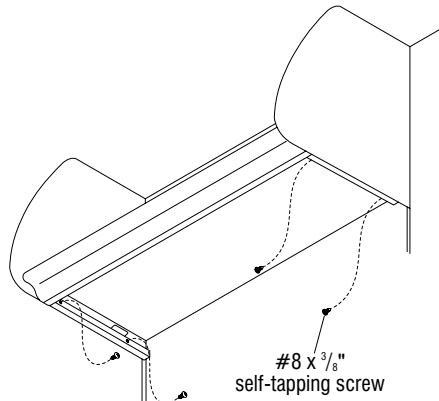

Figure 3
4. Pull the shelf down and adjust until all screw holes in the side flanges are visible through the slots in the support flanges. Install four #8 x 3/8" self-tapping screws through the slots in the side panel support flanges (Figure 3).